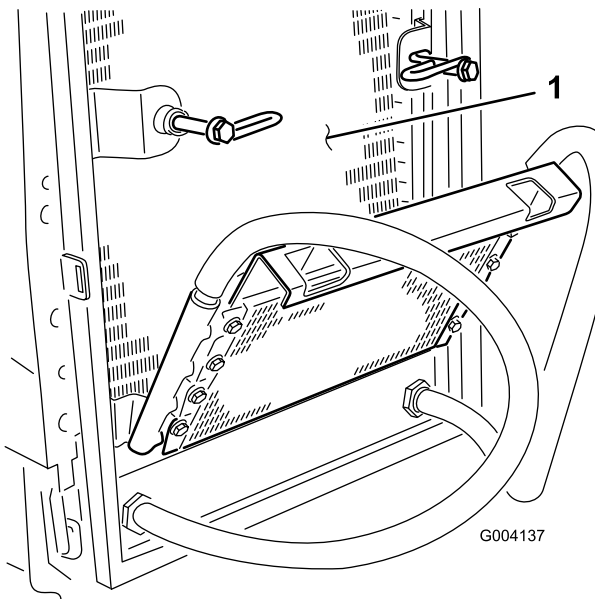

Figure 106
8. Thoroughly clean both sides of the oil cooler and the radiator (Figure 106) with compressed air.